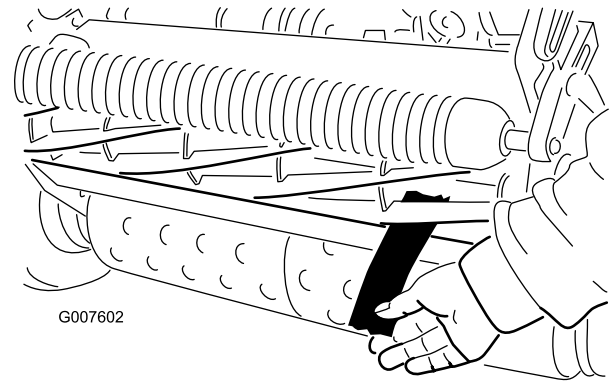

Figure 40
6. After the adjustment is accomplished, check to see if the reel can pinch paper when inserted from the front and cut paper when inserted at a right angle to the bedknife (Figure 40). It should be possible to cut paper with minimum contact between the bedknife and the reel blades. Should excessive reel drag be evident (more than 7 inch-lb (0.79 N-m)), either backlap or grind the cutting unit to achieve the sharp edges needed for precision cutting; refer to the Toro reel sharpening manual.
4. On one end of the front side of the reel, insert a long strip of newspaper between the reel and bedknife (Figure 40). While slowly rotating the reel forward,